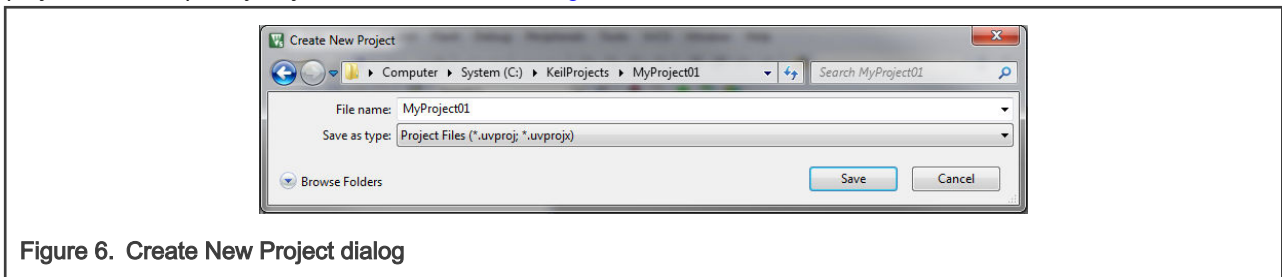

Figure 6. Create New Project dialog
- Navigate to the folder where you want to create the project, for example C:\KeilProjects\MyProject01. Type the name of the project, for example MyProject01. Click Save. See Figure 6.